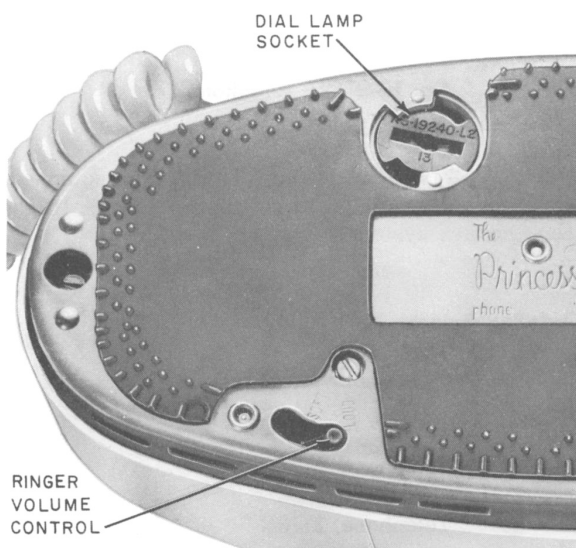

Fig. 4—2702D Telephone Set, Partial Bottom View
- **Ringer volume control:** provides manual control of ringer volume (Fig. 4).